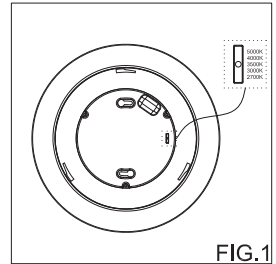

FIG.2
3. Adjust the color to desired one, by sliding the selector switch. (FIG.2)
- Adjust the color to desired one, by sliding the selector switch. (FIG.2)